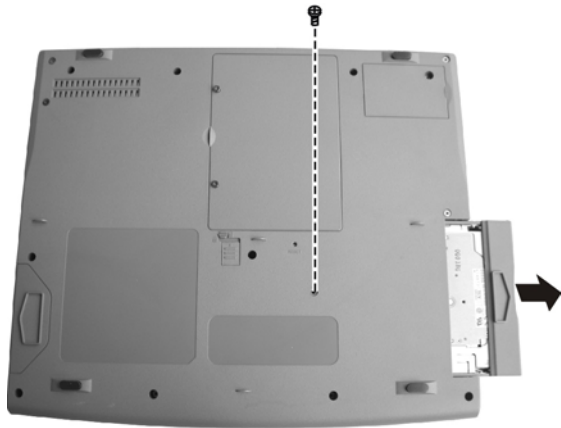

Figure 2-8
2. Remove one screw and slide the FDD/HDD module out of the compartment. (figure 2-8)